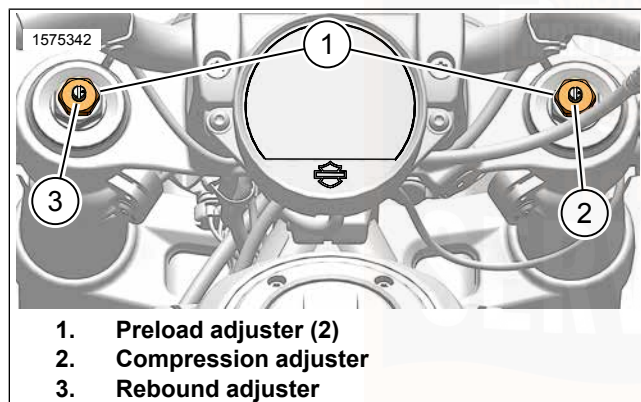

Figure 21. Front Suspension Adjusters
Models equipped with adjustable front forks have adjusters at the top of each fork. See Figure 21.
See Figure 21. The compression adjuster (2) screw is located on the top of the right side fork tube.
See Figure 21. The rebound adjuster (3) screw is located on the top of the left side fork tube.
See Figure 21. The preload adjuster (1) is located on the top of each fork tube.